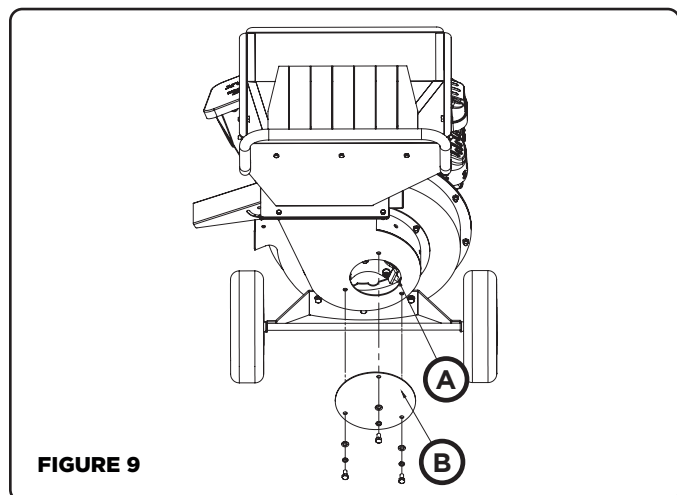

FIGURE 9
2. Remove the small circular access panel (B) from the back of the shredder housing. See Figure 9.
3. Inspect the cutting edges of the Y-hammers (A).